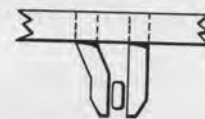

FIG. 9
6. Pins too far apart but outside pin bent so end of pin will be parallel with pin. (Fig. 9.)